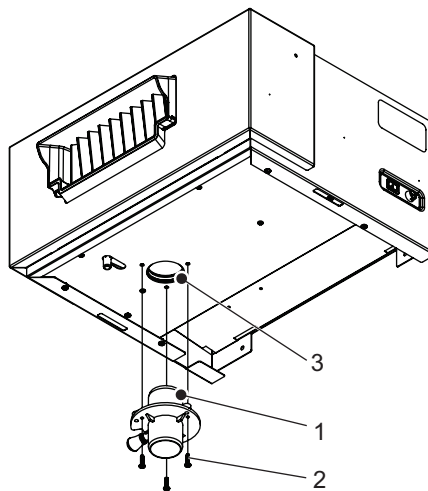

Figure 9: Steam Adapter Installation on Blower Pack
- b. Orient the steam adapter with the blower pack steam inlet, as shown in Figure 9, and push in. The adapter should fit snugly, and form a seal with the O-ring in the blower pack steam inlet.